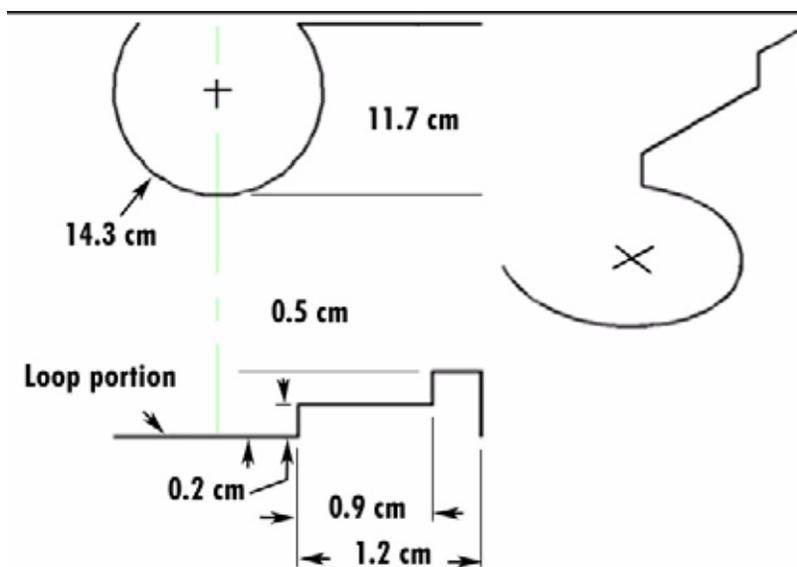

Figure 147 Counter electrode
The counter electrode (CE) is typically made from platinum-iridium wire (Figure 147). It should encompass as much of the inner rim of the liquid cell as possible. It may be useful to make the diameter of the electrode slightly larger than the diameter of the cell, so that the electrode will hold itself in place against the walls of the cell.